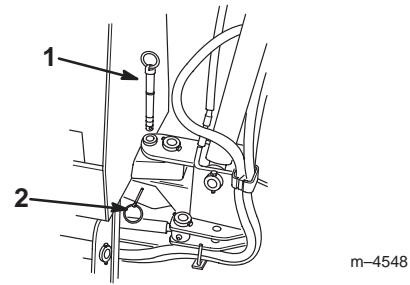
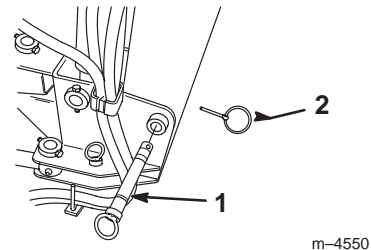
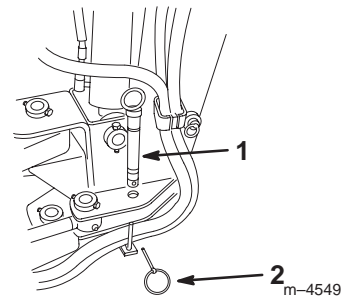

Figure 17
Figure 18
Figure 19
Install the pins securing the boom from moving up and down and side to side (Figs. 17 and 18) before leaving the backhoe unattended, transporting it, or disconnecting it from the traction unit.
5. Remove the two pins locking the boom in place (Figs. 17 and 18) and place them in the storage positions (Fig. 19).
Note: One pin prevents the boom from swinging side to side (Fig. 17) and the other prevents the boom from moving up and down (Fig. 18).